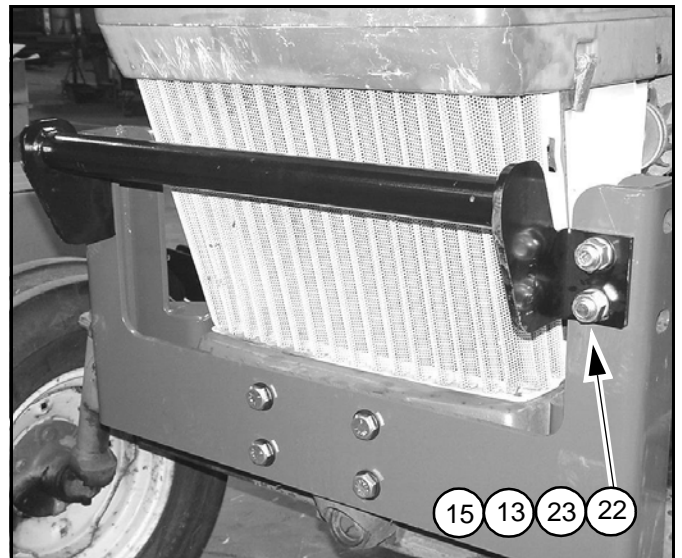

Figure 3 #57864 Grill Guard Kit Installed
1. Attach grill guard to front support, using four 3/4 NC x 2 hex head cap screws (15), flat washers (13), lock washers (23), and nuts (22).
**NOTE:** Install cap screws from inside front support as shown in Figure 3.